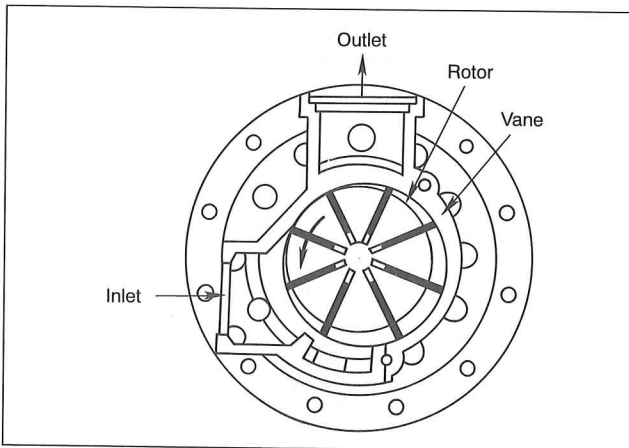

Fig. 9-7 — The vanes slide in and out of the slots as the compressor rotates, carrying air from inlet to outlet.
**Vane compressors.** Like their hydraulic counterparts, vane compressors, Fig. 9-7, are inexpensive, operate at low cost, and demand little starting-torque. They are compact, relatively vibration free, and generate little pulsation in the compressor output. The sliding vanes are closely fitted in the rotor slots and wear little during operation. Vane compressors are available in